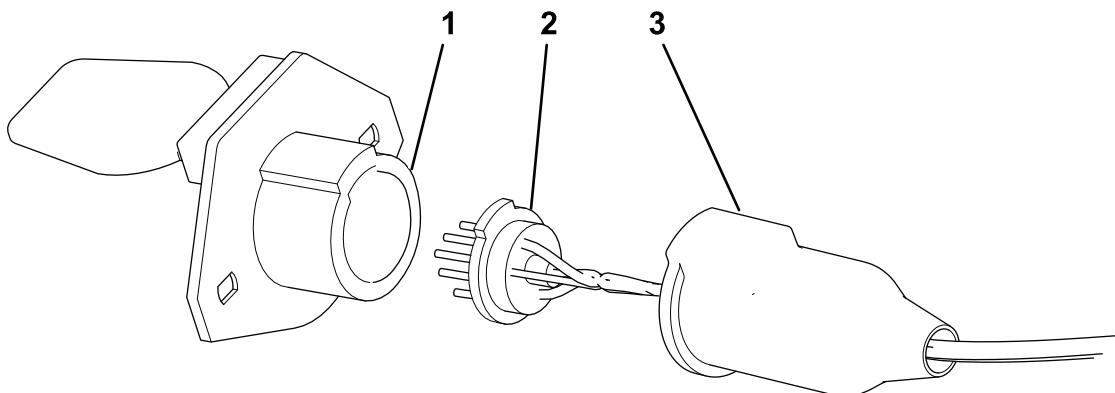

Figure 16
2. Access the 7-pin connector on the MH-400 material handler by pulling the boot back and removing the connector from the housing (Figure 16).